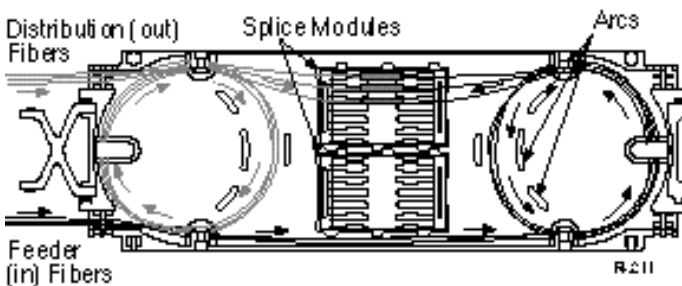

Fig. 22 Storing splices in "top" module
3. Insert splices in the “top” and “bottom” splice modules and store slack fiber on the trays as shown in Figure 22 and 23. Install tray tabs if required (see Figure 24).